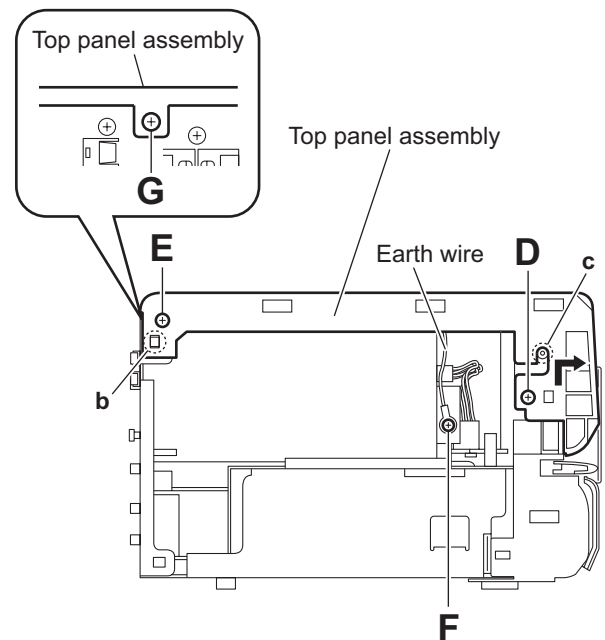

Fig.6
(See Fig.6.)
- (4) From the back side of the main body, remove the screw **G** attaching the top panel assembly. (See Fig.6.)